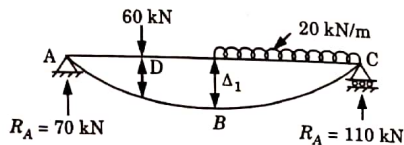

Fig. 6. Deflected shape of basic determinate beam due to external loads.
2. Basic Determinate Structure : To obtain basic determinate structure removing redundant force R_B . The resulting determinate structure is a simple supported beam ABC as shown in Fig. 6.